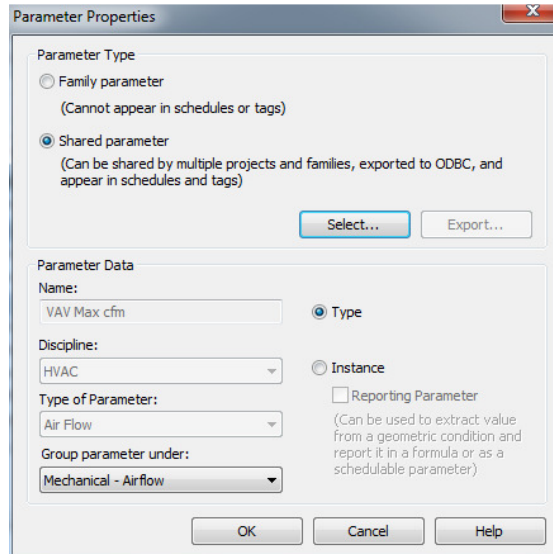

Figure 49. Establishing the *VAV Box Max cfm* parameter.
2. In the Parameter Properties dialog, click **Shared parameter**, then click **Select**. From the list of shared parameters click **VAV Max cfm**, then click **OK**. Group the parameter under *Mechanical – Airflow* and leave it as a *Type*-based parameter as shown in Figure 49. Click **OK** to return to the Family Types dialog.